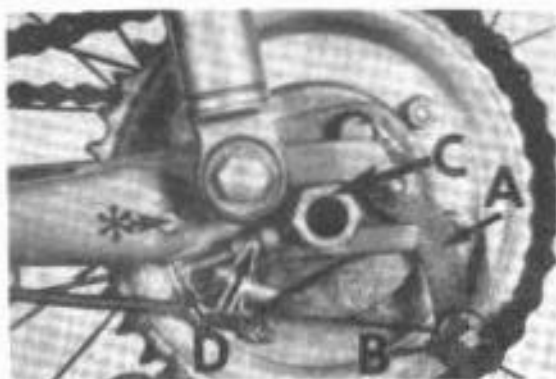

Fig. 28-1
- 1) Push the brake arm "A" Fig. 28-1 forward and release the cable nipple "B" Fig. 28-1 with cable from brake arm.
- 2) Slacken the axle nuts "C" Fig. 28-1 and the chain adjuster bolts "D" Fig. 28-1 and push the wheel forward.
- 5) To replace the wheel reverse the procedure making sure the slot in the brake plate fits over the lug on the inside of the R.H. rear fork just forward and slightly below the bolt at the bottom of the shock absorber. See location indicated by \* on Fig. 28-1.